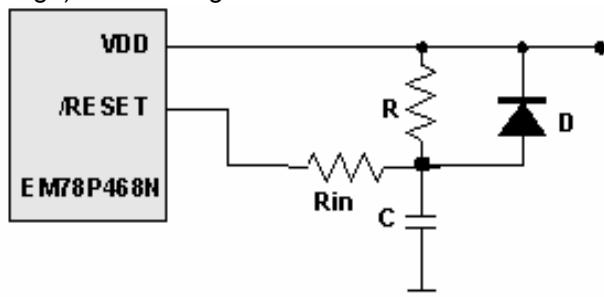

Fig. 12 External Power on Reset Circuit
This circuit implements an external RC to produce a reset pulse (see Fig.12). The pulse width (time constant) should be kept long enough to allow VDD to reach minimum operation voltage. This circuit is used when the power supply rise time is slow. Because the current leakage from the /RESET pin is about $\pm 5\mu A$, it is recommended that R should not be great than 40K. In this way, the voltage at Pin /RESET is held below 0.2V. The diode (D) acts as a short circuit at power-down. The capacitor, C, is discharged rapidly and fully. Rin, the current-limited resistor, prevents high current discharge or ESD (electrostatic discharge) from flowing into Pin /RESET.